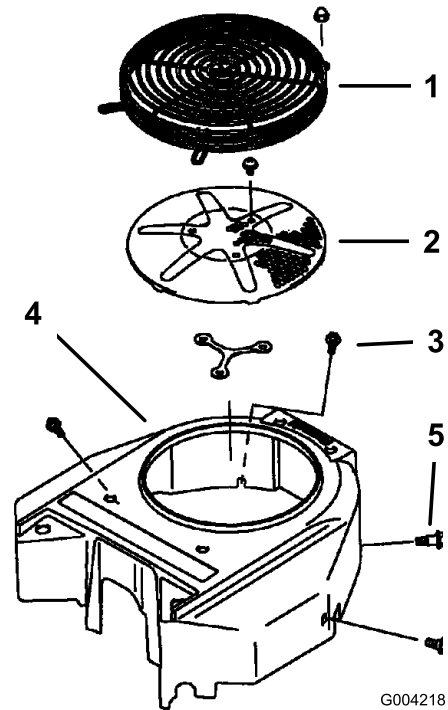

Figure 82
3. Remove the air intake screen, recoil starter, and fan housing (Figure 82).
5. Install the air-intake screen, recoil starter, and fan housing (Figure 82).